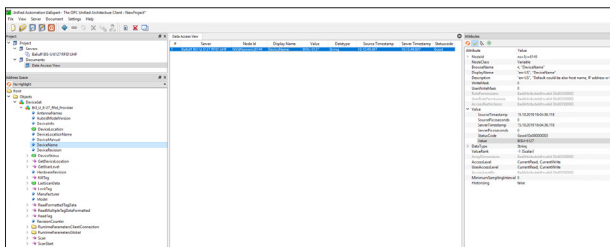

Fig. 9-19: Presentation of a variable in *DATA ACCESS VIEW*
- ⇒ As soon as the variable is in this window, further information is displayed (see Fig. 9-19). You can find the current value of the variables in the *VALUE* column.